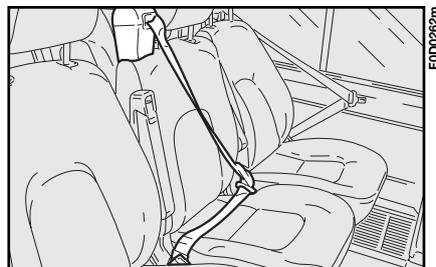

fig. 12
- **fig. 12** first row central seat